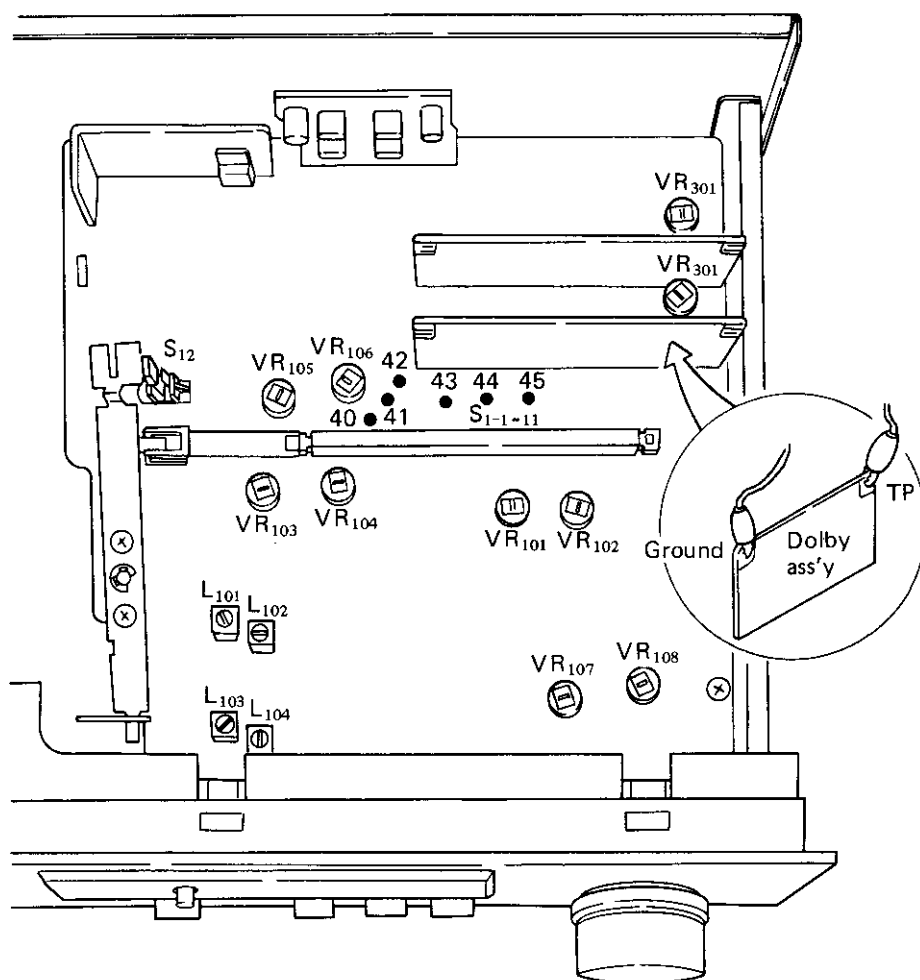

Fig. 25 Adjustment Positions
1. Connect the millivoltmeters to the TP terminals of the Dolby assembly. The TP terminals are on the pattern side (see Fig. 25).